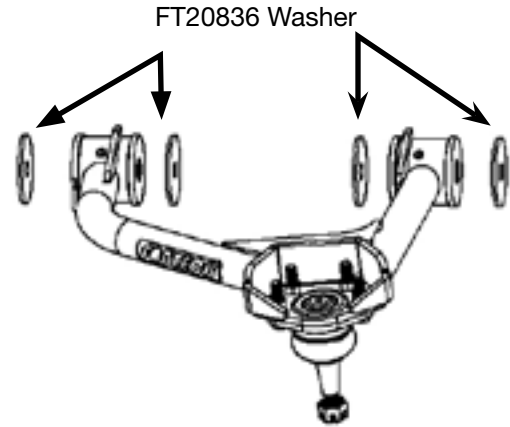

FIGURE 35 - STEP 26
26. Install the FT20833 (Driver) & FT20834 (Pass) upper control arms using the supplied M14 hardware. **NOTE: When installing the arms, install a FT20836 (washer) on both sides of the bushings. SEE FIGURE 35.** Using the supplied thread locking compound, Torque the M14 upper control arm hardware to 160 ft-lbs